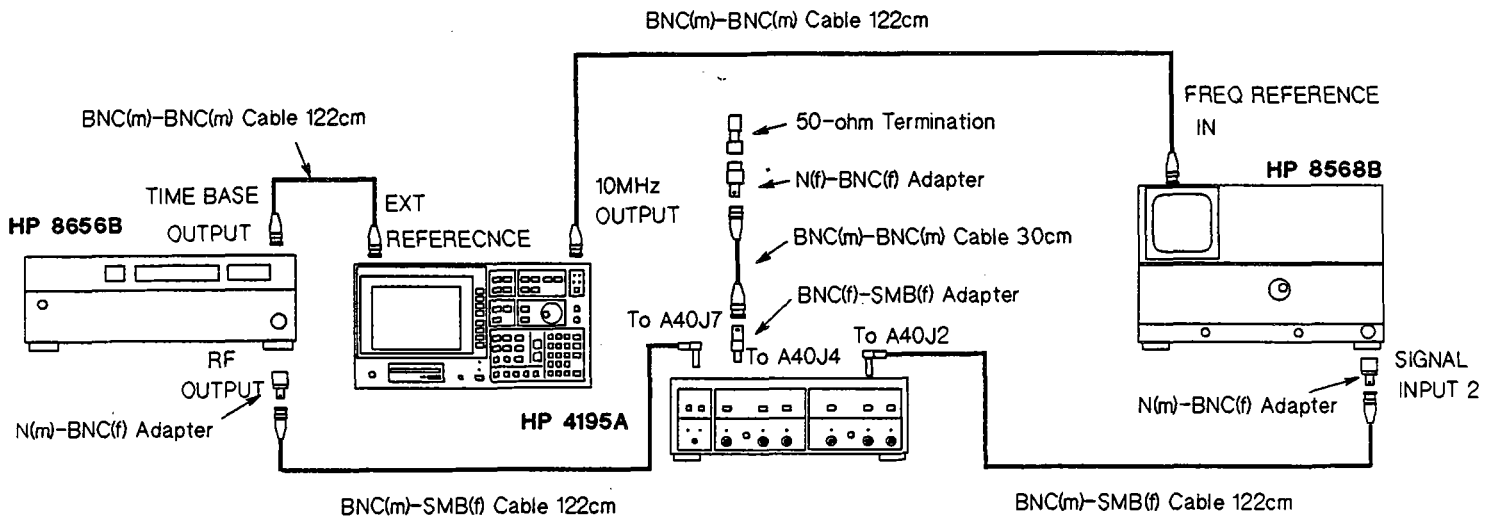
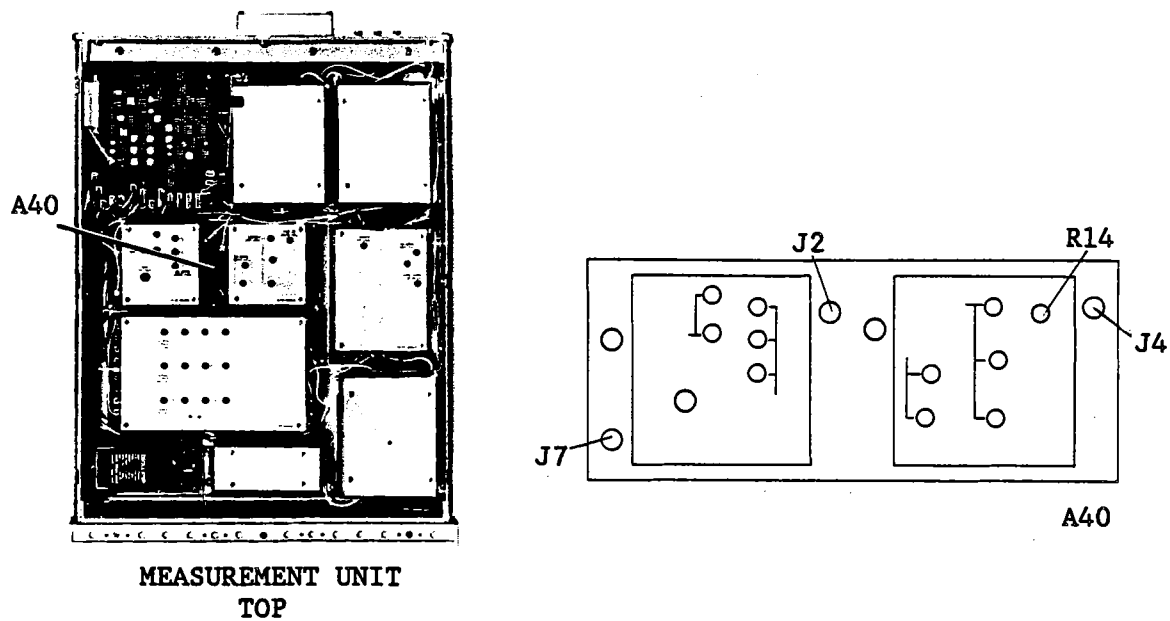

Figure 3-113. Receiver Second IF Converter Gain Adjustment Setup
Figure 3-114. Second/Third IF Converter Gain Adjustment Locations
1. Connect the equipment as shown in Figure 3-113. See Figure 3-114 for the locations of A40J2, A40J4, and A40J7.